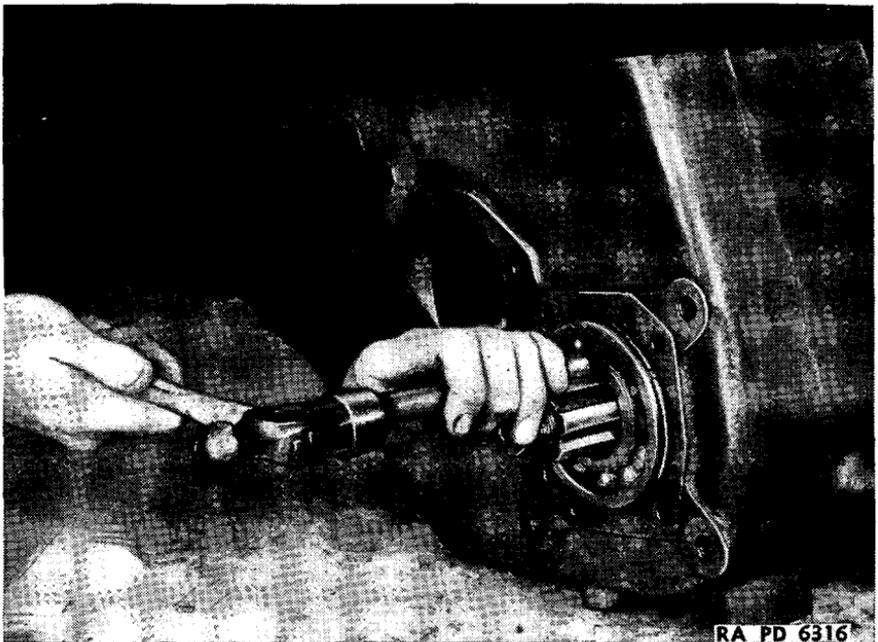

FIGURE 132.—Transfer case mainshaft rear bearing replacement.
(6) Replace mainshaft rear bearing—brass drift, hammer, screw driver, pliers. Replace bearing snap ring onto bearing and drive bearing into position in case (fig. 132). After rear bearing is installed, hold it in place and drive front end of mainshaft until shaft is fully engaged in underdrive gear. Replace front pocket bearing on front end of mainshaft.
(7) Replace mainshaft rear bearing cap—oil seal replacer, hammer,  $\frac{5}{8}$ -inch socket wrench. Replace oil seal in cap and replace rear bearing cap, gasket, and four cap screws and lock washers.
(8) Replace intermediate shaft underdrive gear needle bearings.